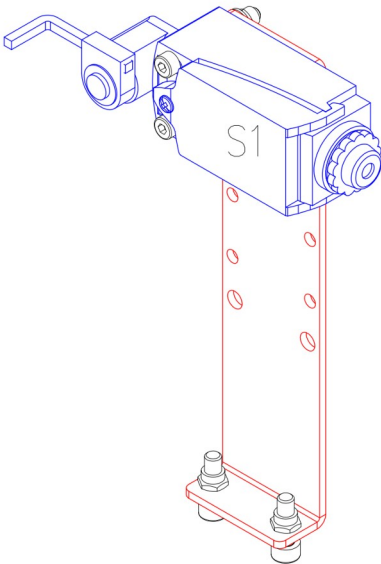

Fig. 6: Installation at the top at the holding bracket
High-speed version and Type depth 825 - 1270 (large chain wheels)	Install limit switch S1 (item 1) at the top of the mounting bracket (item 2) (see Fig. 6 and Table 1).